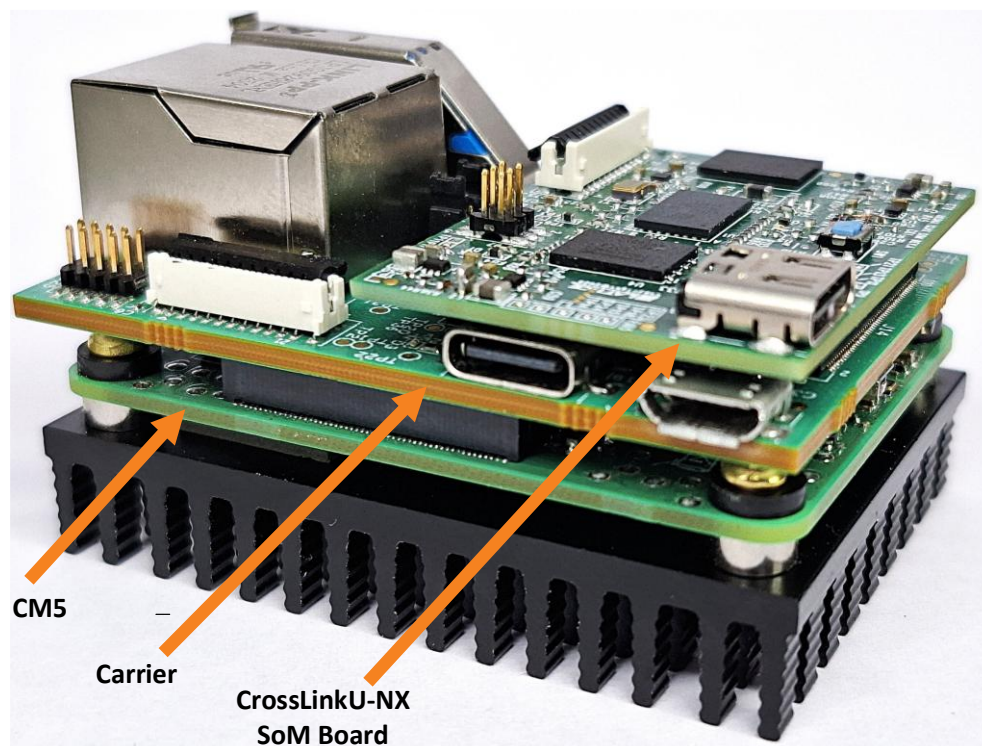

Figure 6.1. System Integration
The system integration of the CrossLinkU-NX SoM Board with the Carrier board and CM5 is shown in Figure 6.1.
5. Click **Create a new blank project** and click **OK** (Figure 6.1).